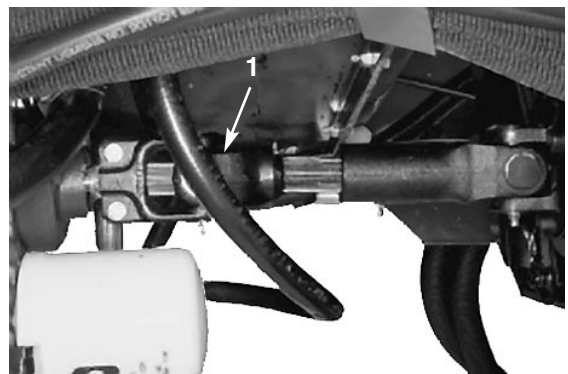

Figure 18
1. Loosen and remove the capscrews securing the drive shaft to the engine. Loosen the capscrews clamping the drive shaft to transmission (Fig. 18). Remove the drive shaft.
5. When towing is completed, reinstall the drive shaft as shown in Figure 18. (The splines are designed to allow assembly only when the two halves of the shaft are properly oriented.)